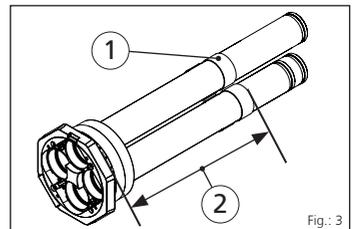

Fig.: 3
- 3** The blue swelling tapes of the MSH PolySafe MV must be located approx. 50 mm from the outer wall of the building on the sleeve pipes (Setting dimension = Wall thickness X-50 mm) (see fig.: 3).
Legend for Fig.: 3